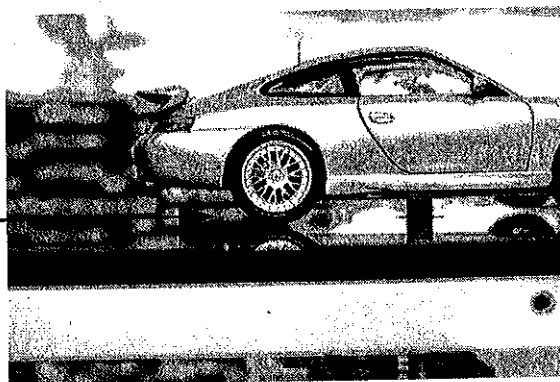

Figure 15 The Model Must Not Rest on the Floor (Model Car Shown - Not Included)
7. Adjust the model support shaft so that the model does not rest on the floor of the working section (see Figure 15).